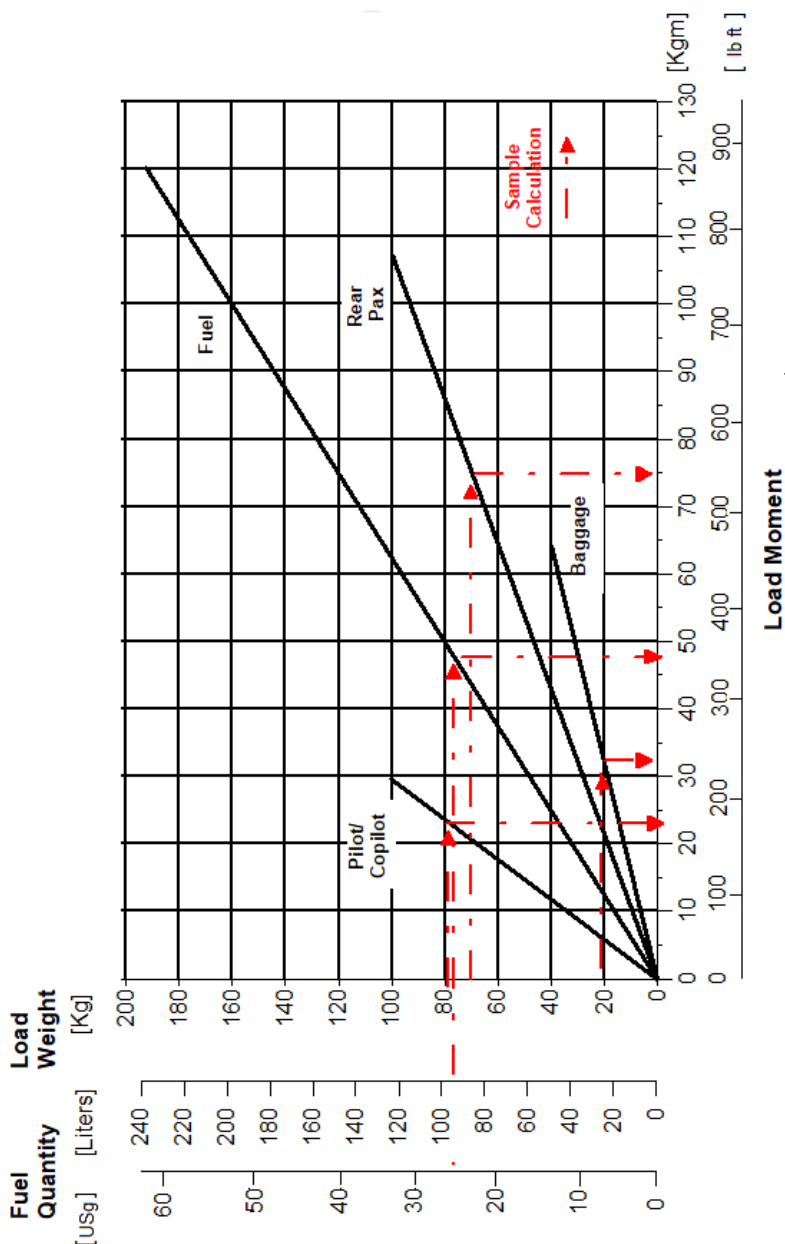

Figure 6-3 - Loading Diagram
- Loading Diagram (Figure 6-3)
Alternatively, the moment can be read from the Loading Diagram (Figure 6-3)